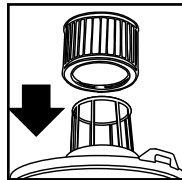

FIGURE 21
34. With the tank cover in an upside down position, slide the cartridge filter down over the lid cage, pushing until the filter seals against the cover. **FIGURE 21.**